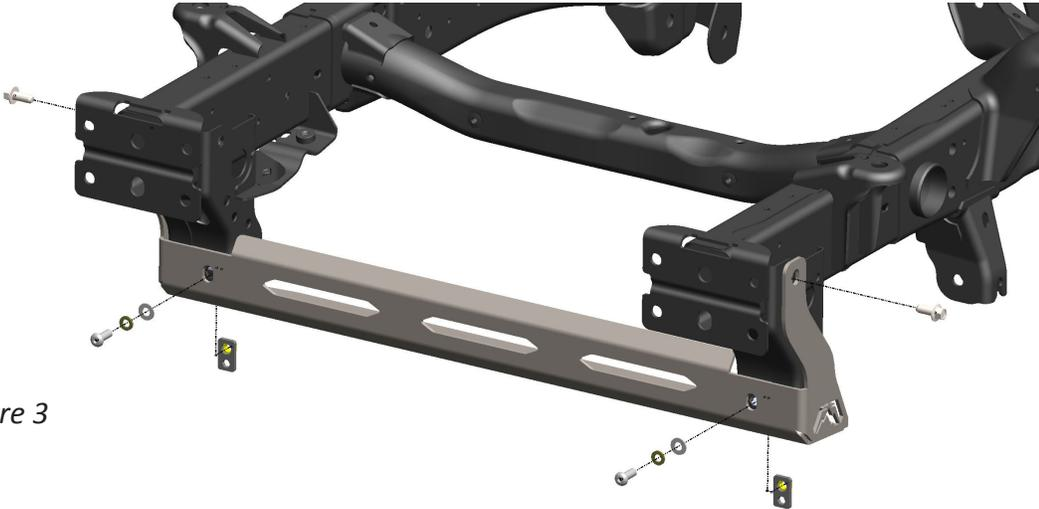

Figure 3
4. Use two (2) 3/8 button head bolts with washers from 50262-HW along with the 22356 nut plates to attach the skid plate to the frame rails. Use the M10 OEM bolts to fasten the top section of the skid plate. Figure 3.